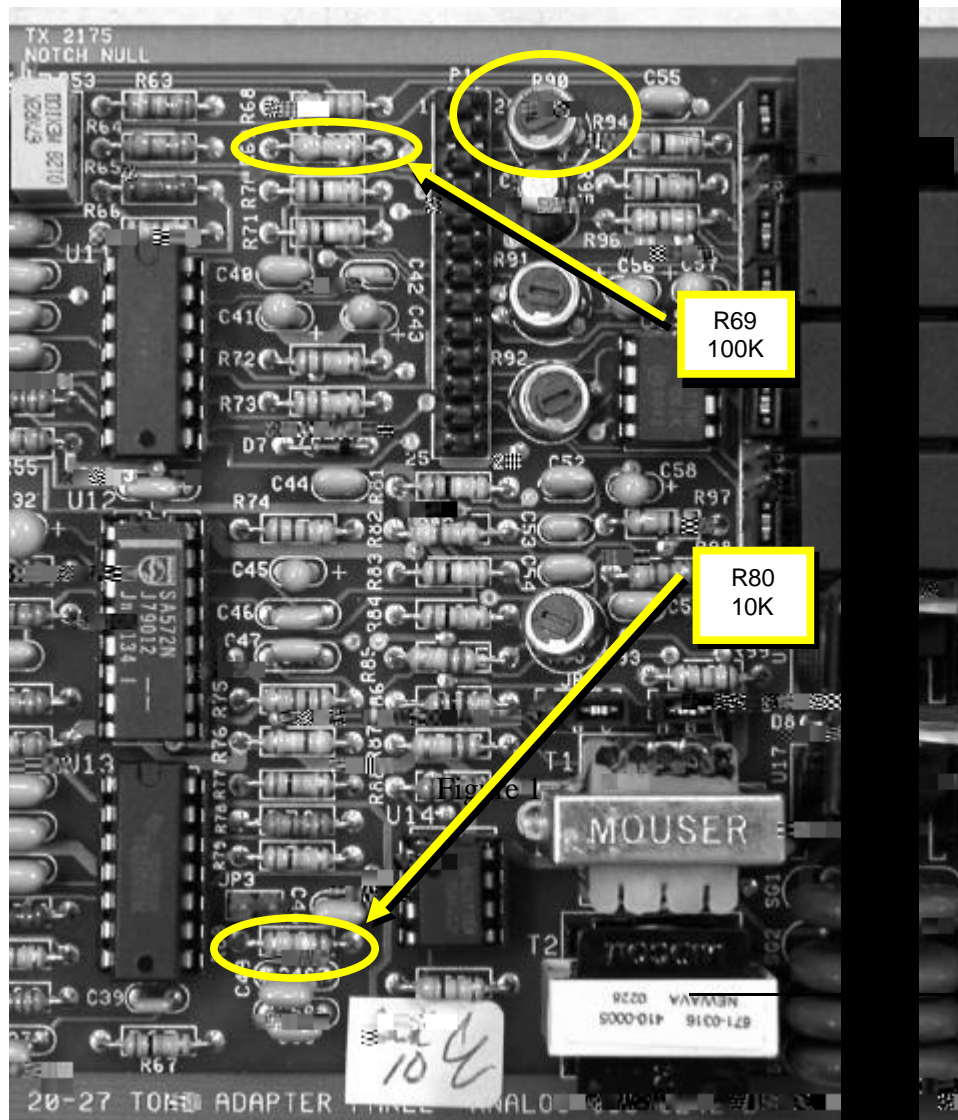

Figure 1 – Parts Placement
2. Modification (See Fig. 1 for parts placement)
4. If Technical Service Bulletin #1014 has been implemented, then do the follow adjustments (See Figure 1 for parts placement):